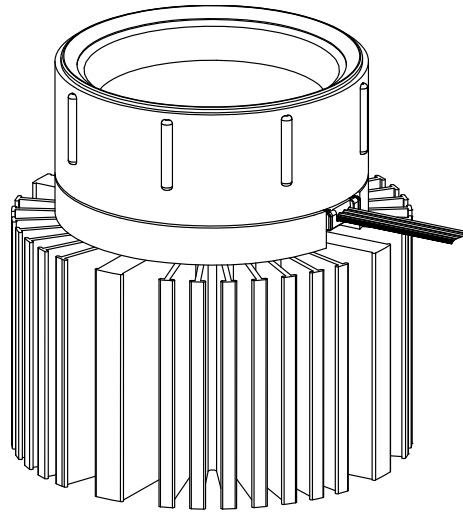

Figure 6
4. After the Circular Light Module (CN88) is secured to the heat sink, the mating NEVALO Cable Assembly can be mated to energize the module. The Circular Light Module (CN88) will accept the Straight and Right-Angle NEVALO Connectors. Straight is shown in Figure 6.